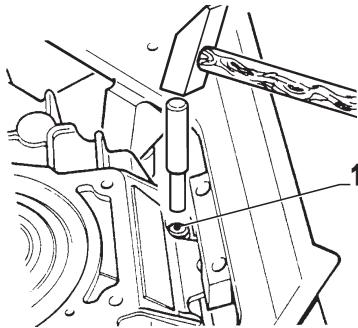

FIG. 6-1a
Using a adequate drift punch, tap the locating pins (item 1, Fig. 6-1a and 6-1b) out of the housing.